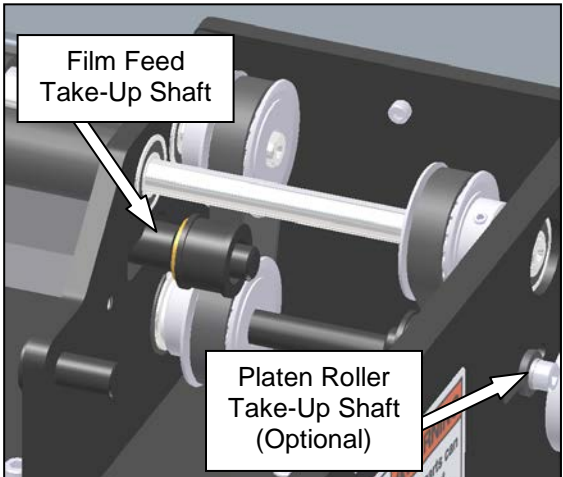

Figure 3-154. Film Feed Belt Take-Up Shaft
2. Loosen the belt take-up shaft to create slack in the belt (Figure 3-154). (Note: if the model SX™ is equipped with a printer, the platen roller belt take-up shaft must also be loosened to give the platen roller drive belt slack.)